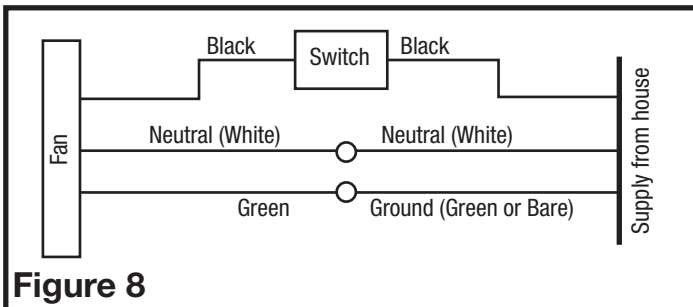

Figure 8
- 2b. From where you have chosen to access the fan's junction box, connect the white wire from the house to the white wire from the fan's receptacle. Connect the black wire from the wall switch to the black wire from the fan's receptacle. Connect the ground wire from the house to the green wire from the fan housing (Figure 8). Use approved methods for all connections.